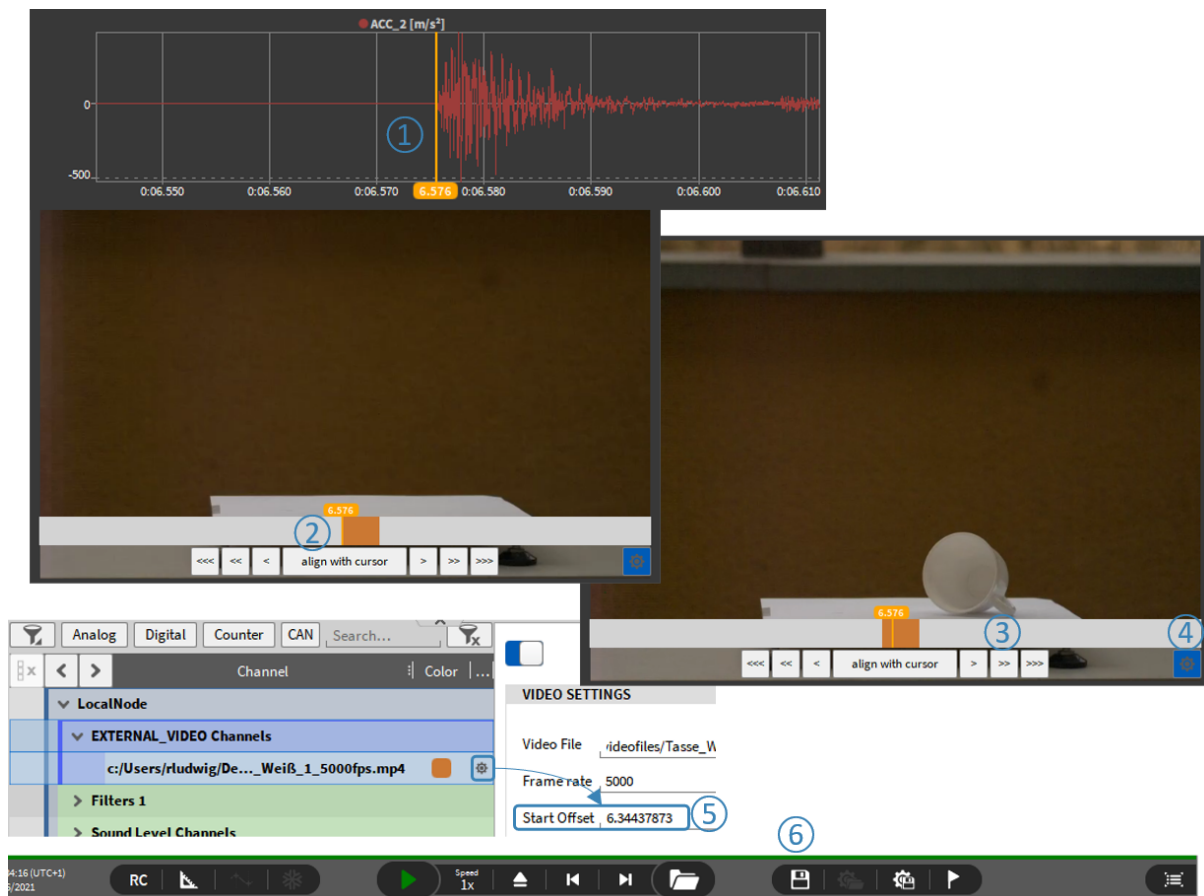

Fig. 7.169: Alignment of sensor and video data
1. Use the Recorder to move the orange cursor to the reference event for data synchronization (see ① in Fig. 7.169)
2. Press *align with cursor* to move the video start to the orange cursor position for a rough time adjustment (see ② in Fig. 7.169)
3. For fine time adjustments, use the <<<, <<, < & >, >>, >>> buttons to align the timeline (see ③ in Fig. 7.169)
4. When finished, the timebar can be hidden (see ④ in Fig. 7.169)
5. The absolute time offset can also be seen in the video's channel setup (see ⑤ in Fig. 7.169)
6. The settings can be saved to the data file (see ⑥ in Fig. 7.169)